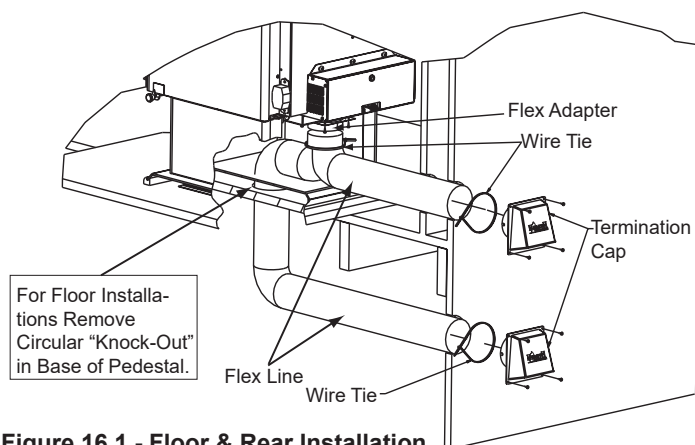
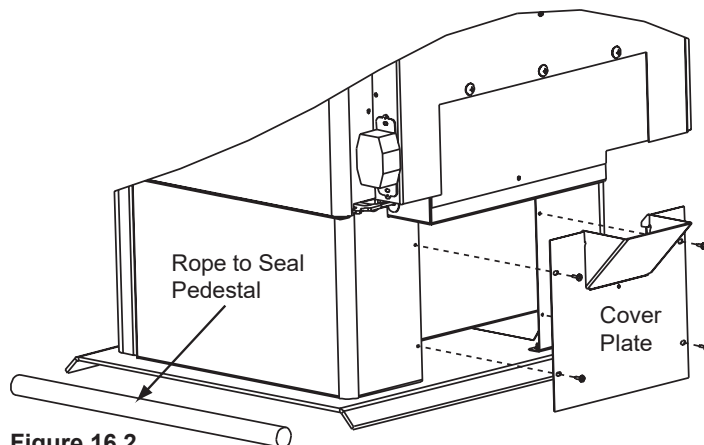

Figure 16.1 - Floor & Rear Installation
Figure 16.2
Cover plate and sealing rope (see Floor Installation Alternative below, **Figure 16.2**)
2. Using a #2 Phillips screw driver attach the flex adapter to the appliance using 4 screws (**Figure 16.1**)
In some instances you may not be able to install the flex pipe as show in **Figure 16.1**. If that is the case, you will need to order SRV7033-041 which includes a cover plate and sealing rope as shown in **Figure 16.2**. The goal is to seal the pedestal so no room air can leak into the pedestal or for cold air infiltration.